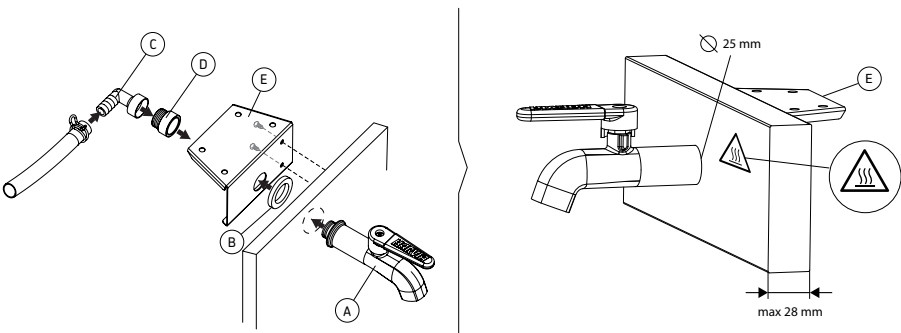

Figure 6.
C. Drilling hole to the interior (max 28 mm thick wood) and putting faucet trough it (Figure 6.)
3. Attach faucet (A), seal (B), clip (C), faucet extension (D) and faucet clamp (E) together, sealing between the faucet and the faucet clamp.